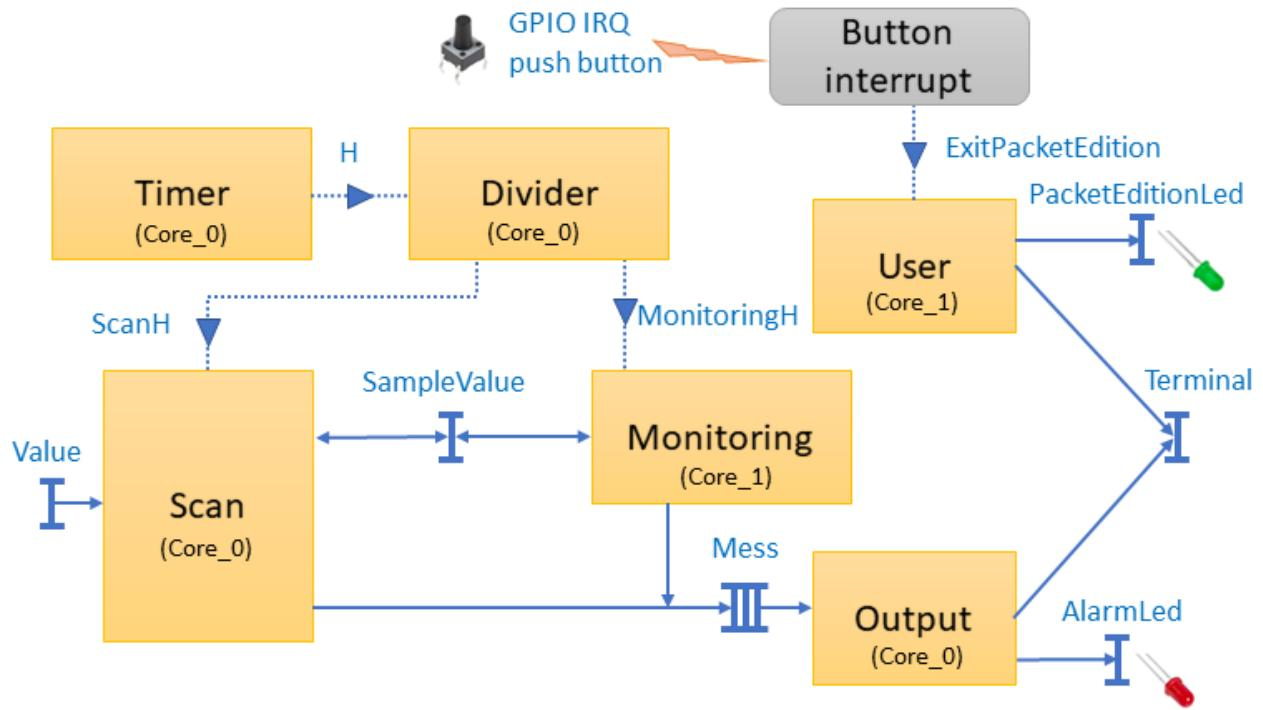

FIGURE 5.1 – Functional description.
We want to implement the functional structure depicted in figure 5.1.
5. Write the program for *Timer*, *Divider*, *Scan* and *Monitoring* tasks. The capacity of *Mess* queue is 5. The tasks are mapped on different cores referenced in the figure 5.1.